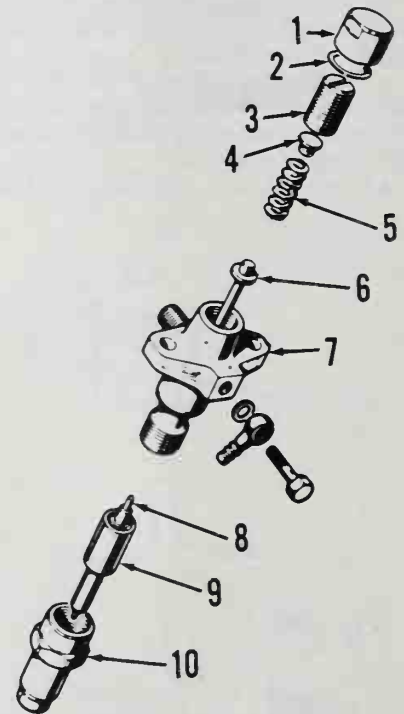

Fig. L5-6—Exploded view of injector.
Opening pressure with a new spring (5—Fig. L5-6) should be 21.6-22.5 MPa while opening pressure with a used spring should be 20.6-21.6 MPa. Opening pressure is adjusted by turning adjuster (3). Valve should not show leakage at orifice spray holes for 10 seconds at 19.1 MPa.
OVERHAUL. Refer to exploded view in Fig. L5-6 and disassemble injector. Thoroughly clean all parts in a suitable solvent. Clean inside orifice end of nozzle tip with a wooden cleaning stick. The orifice spray holes may be cleaned by inserting a 0.28 mm cleaning wire. When reassembling injector, make certain all components are clean and wet with clean diesel fuel-oil. Tighten nozzle nut (10) to 49 N·m.